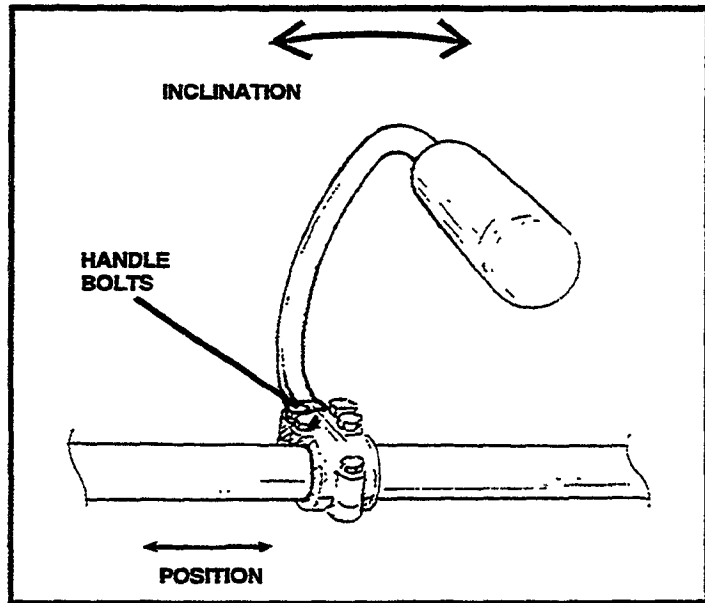

Figure 2
### 2. INSTALLING MID-HANDLE (Figure 2)
- Install bolt, washer, and wing knob (Figure 2).